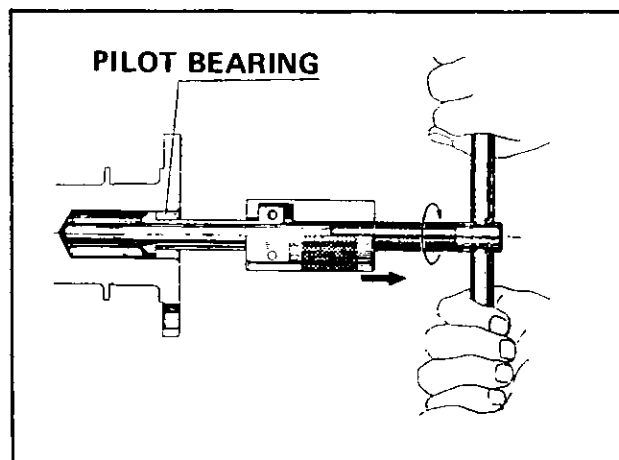

Fig. EM-49 Removing pilot bearing
5. Check the main drive shaft pilot bearing at the rear of the crankshaft for wear and damage. Replace it if any defects are detected. The pilot bearing can be removed by using special tool (ST49700000) as illustrated in the Figure EM-49.